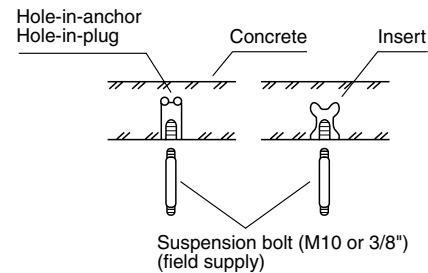
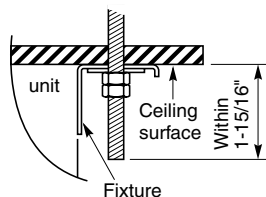

Fig. 3-114
Fig. 3-116
- (2) Drill holes at the 4 points indicated on the full-scale diagram.
- (3) Depending on the ceiling type:
- a) Insert suspension bolts as shown in Fig. 3-114.
- (4) Screw in the suspension bolts, allowing them to protrude from the ceiling as shown in Figs. 3-114 and 3-115. The distance of each exposed bolt must be of equal length within 1-15/16". (Fig. 3-116)